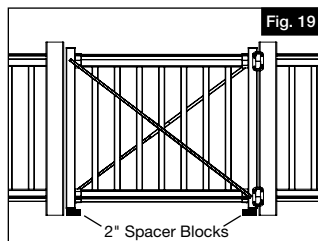

Fig. 19
- Flip rail over. Repeat instructions 7a-7e, being sure to install second brace on opposite side of gate, and opposite orientation of brace making an "X" (Fig. 19).
- Cut two temporary wood blocks 2" tall, (not included), and rest bottom rail of gate on them. Align gate between the posts (Fig. 19).